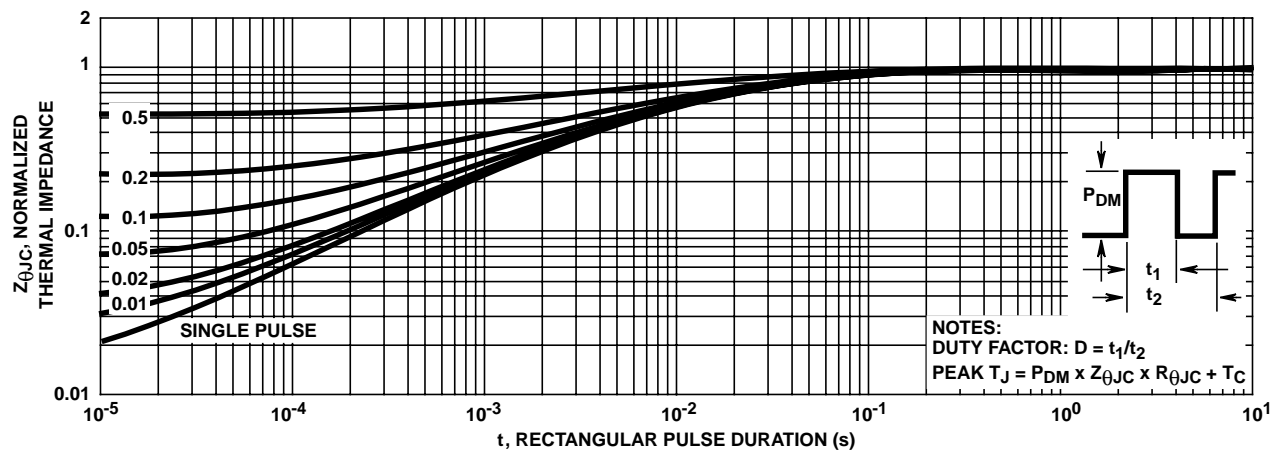

FIGURE 3. NORMALIZED MAXIMUM TRANSIENT THERMAL IMPEDANCE
3. Repetitive rating: pulse width limited by maximum junction temperature. See Transient Thermal Impedance curve (Figure 3).